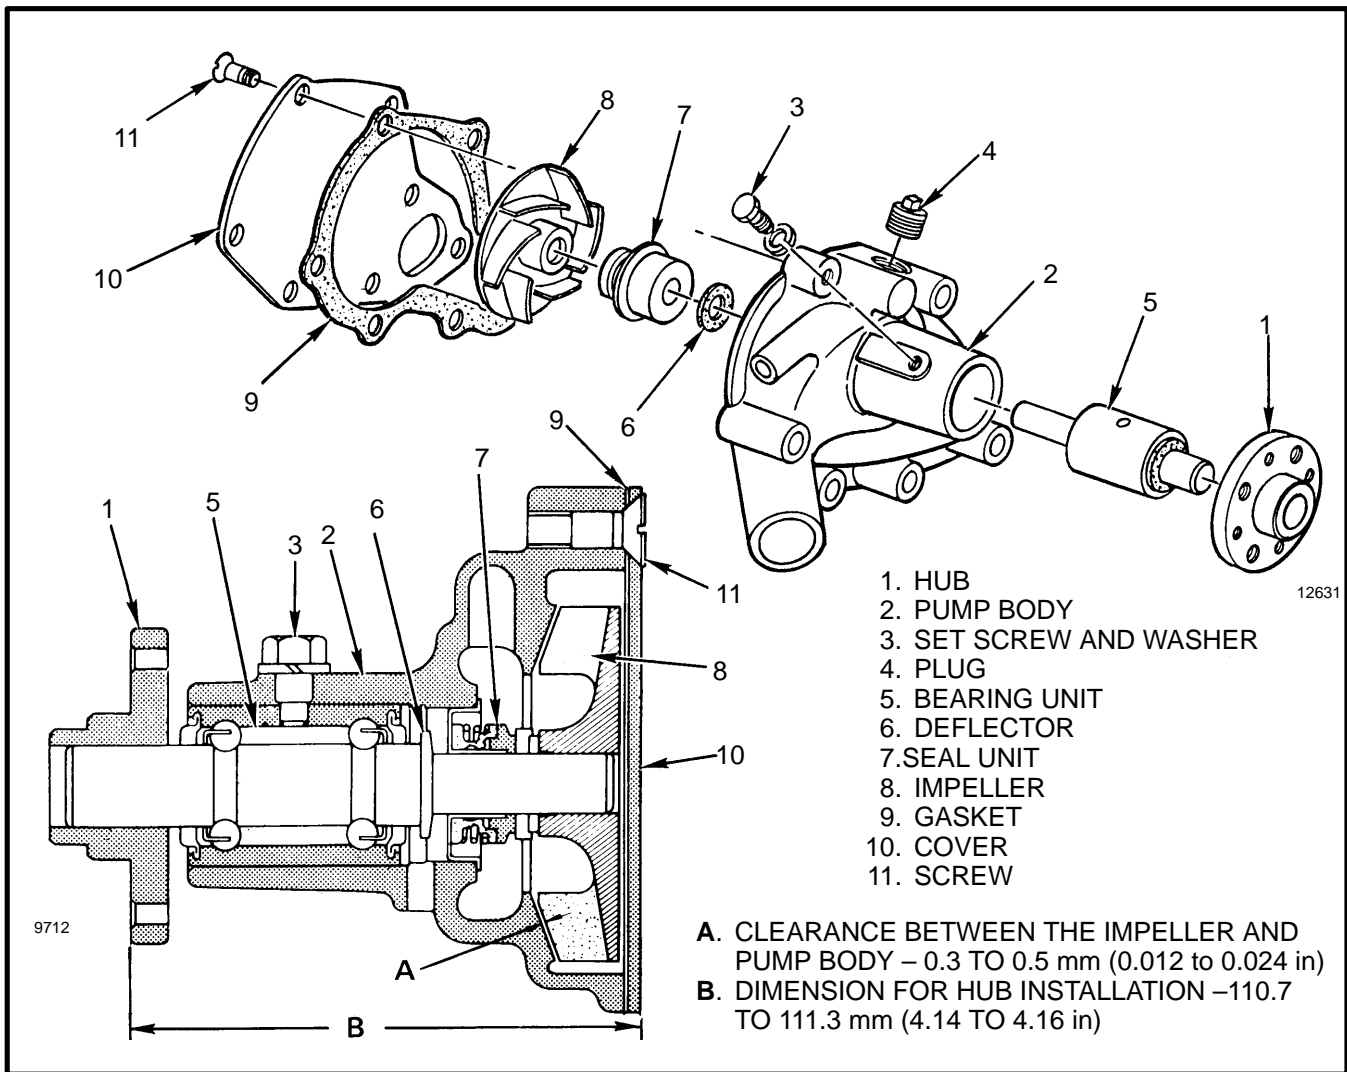

FIGURE 63. COOLANT PUMP
Coolant Pump, Disassembly (See FIGURE 63.)
1. Install the bearing unit so that the holes for the set screw are aligned. See FIGURE 63. Install the set screw.